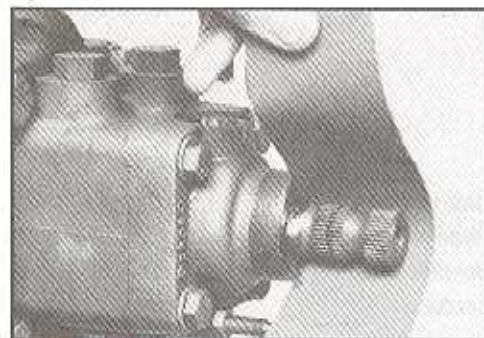

Figure 57
14. Remove protector seal (11) from worm shaft (25B). Clean exposed area of the worm shaft with a fine grade of emery paper. SEE FIGURE 57.